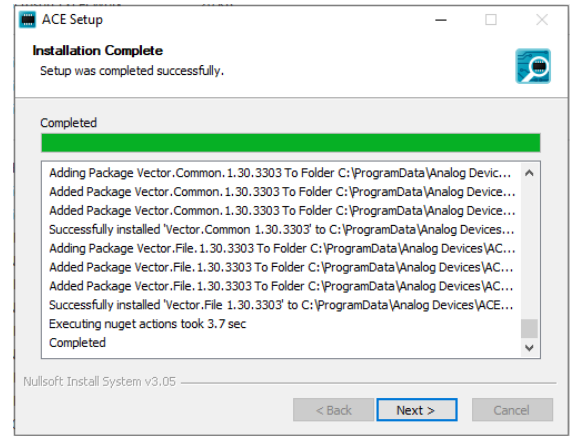
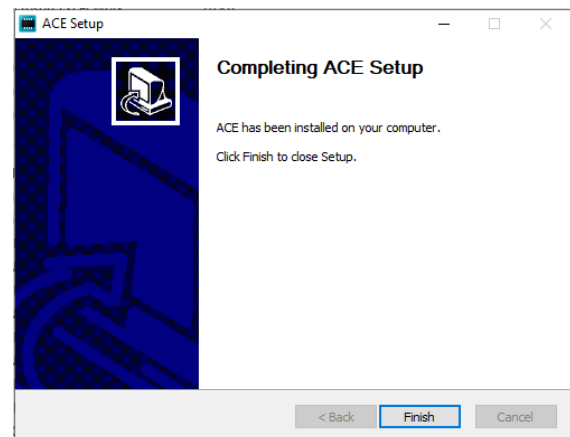

Figure 14. Installation Complete
Figure 15. Completing ACE Setup
9. The installation is complete (see Figure 14). Click **Next >** and then click **Finish** (see Figure 15) to complete.